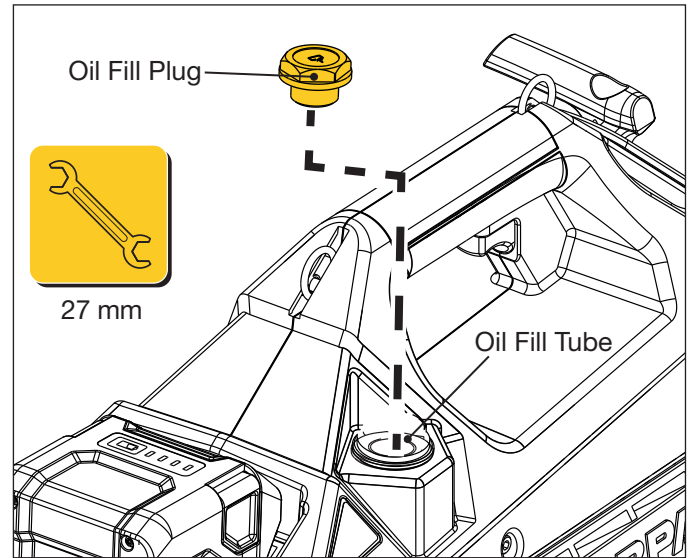

Figure 13: Oil Fill Location
3. Turn off the pump power switch (O).
5. Remove the oil fill plug from the fill opening. Use a 27 mm wrench. See Figure 13.
4. Remove the oil fill plug from the fill opening. Use a 27 mm wrench. See Figure 13.